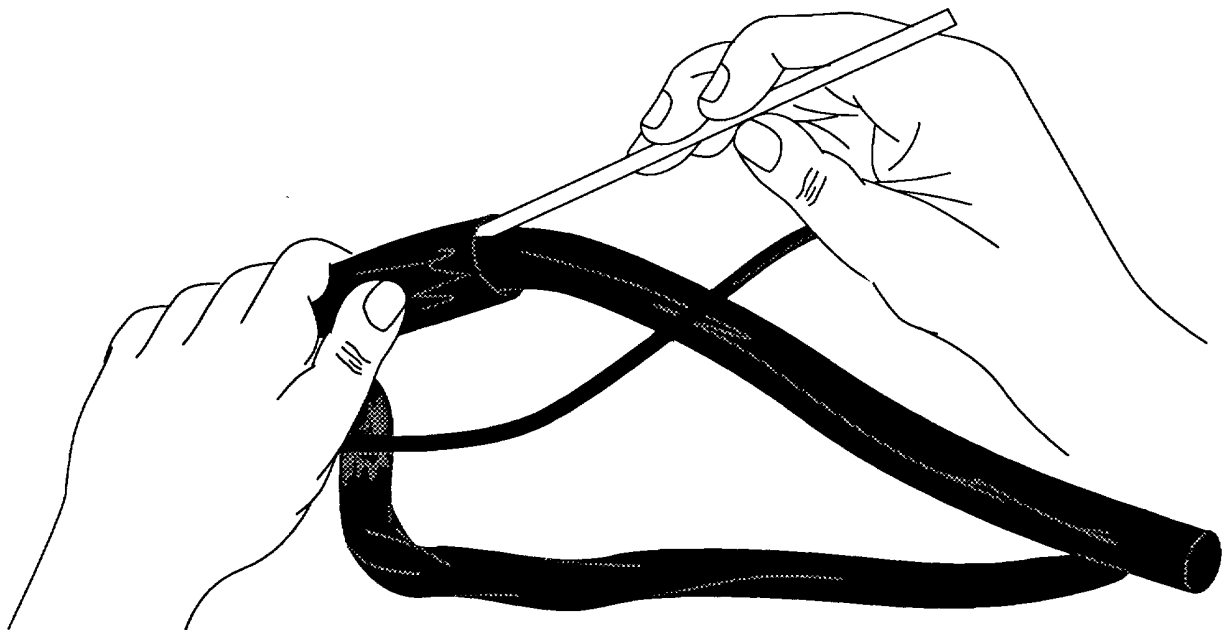

Figure 24. Inserting Adhesive
c. Use an applicator stick to work adhesive into space between jacket and boot or transition (Figure 24).